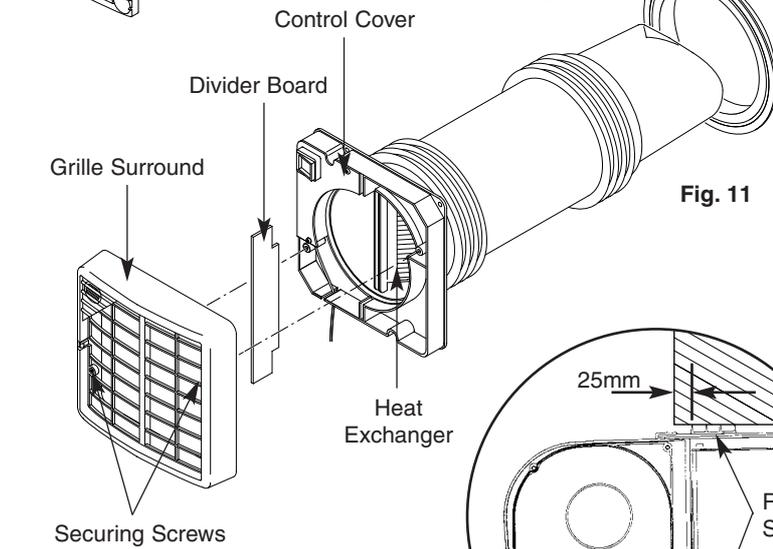

Fig. 11
3. Loosen the two securing screws and remove the grille surround (Fig. 11).
4. Remove the divider board (Fig. 11).